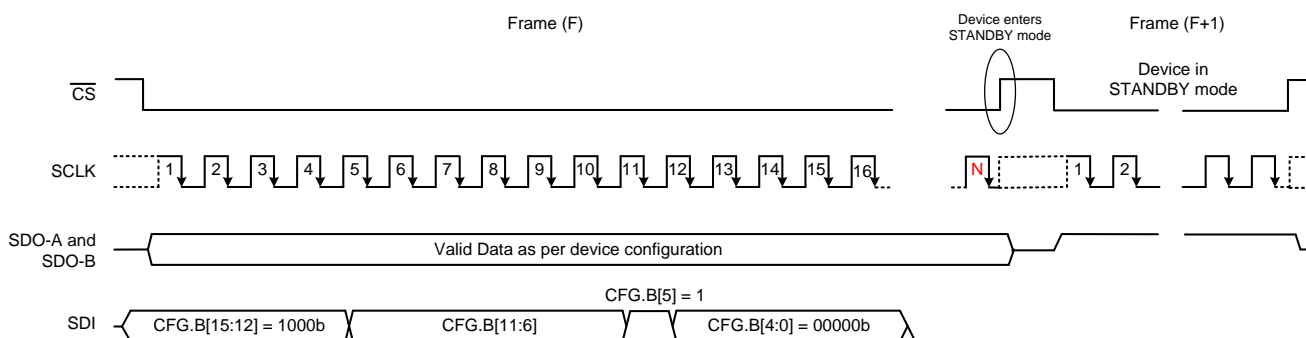

Figure 94. Enter STANDBY Mode
As shown in Figure 94, a valid write operation in frame (F) to program the configuration register with B5 set to 1 (CFR.B5 = 1) places the device into a STANDBY mode of operation on the following $\overline{\text{CS}}$ rising edge. While in STANDBY mode, SDO_A and SDO_B output all 1s when $\overline{\text{CS}}$ is low and remain in 3-state when $\overline{\text{CS}}$ is high.